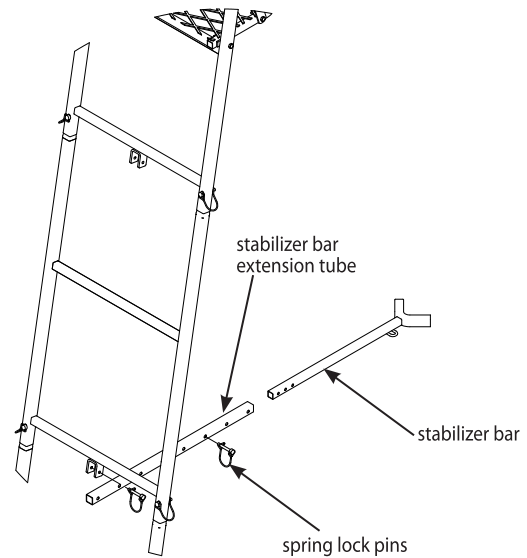

Figure 4
7. a. Attach the stabilizer bar extension tube (1ML23) to the third ladder section mounting bracket using (1) provided spring lock pin. **SEE FIGURE 4.**
b. Slide the stabilizer bar (L29) into the extension tube and attach the two pieces together using (1) provided spring lock pin. Spring lock pin must go through both the extension tube and the stabilizer bar at appropriate hole to achieve desired distance from tree. Adjustment in length may be needed when ladder is uprighied later in instructions. **SEE FIGURE 4.**